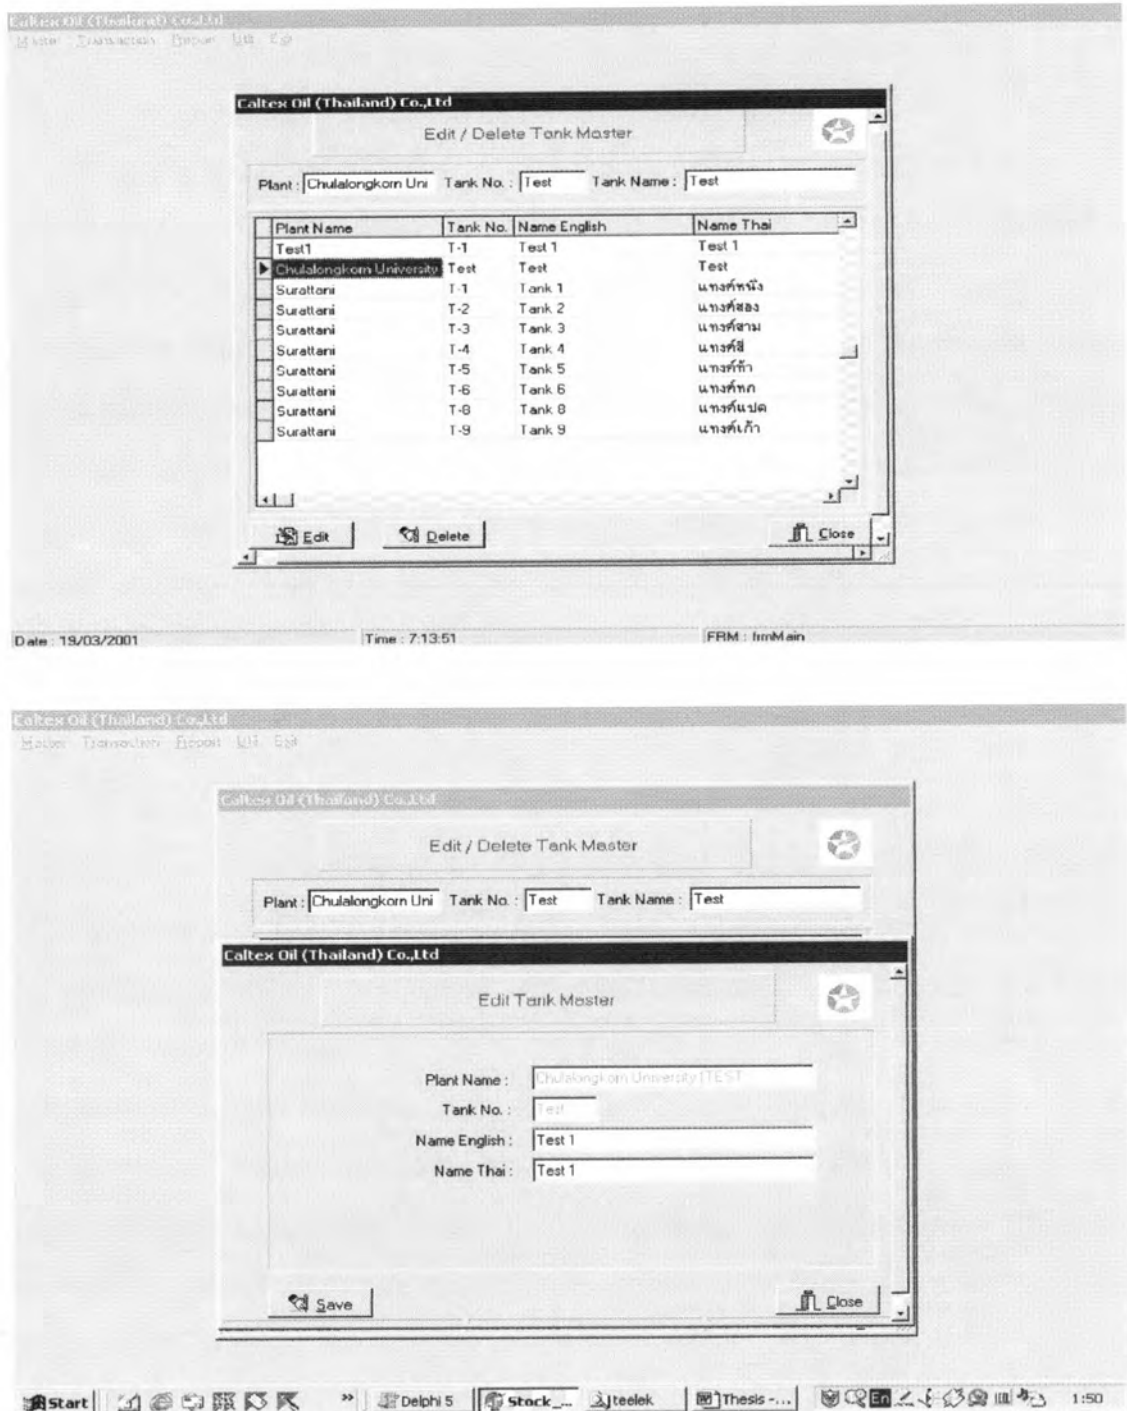

Figure 4-14 Edit / Delete Tank Menu
b) Edit / Delete Tank data (see figure 4.14)